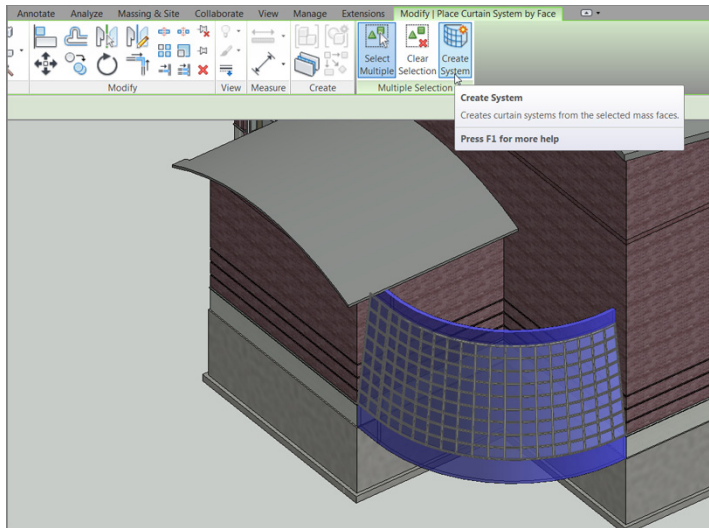

FIGURE 16.51: The curtain wall in all its glory
12. Click the **Create System** button, and you have it! (See Figure 16.51.)